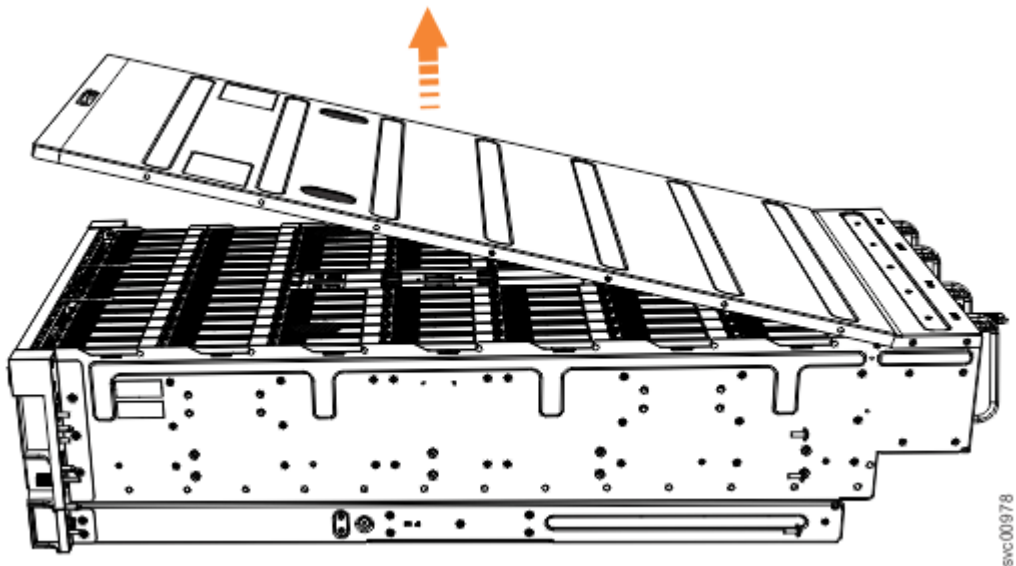

Figure 32. Removing the 2072-92F cover
3. Carefully lift the cover up, as shown in Figure 32 on page 53.